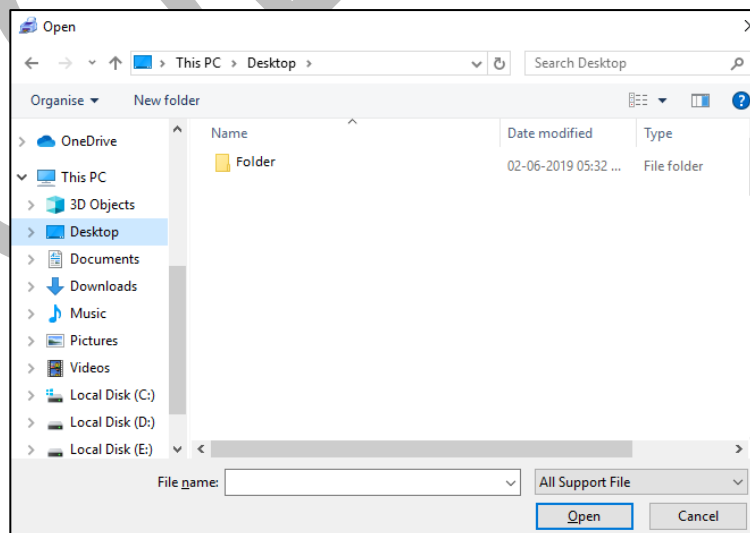

Fig 24: Displaying the Open Dialog Box
**Step 3:** After selecting the file, click on the **Open** button (Refer to Fig 24). The **Properties** dialog box appears with printing options of the selected image file.